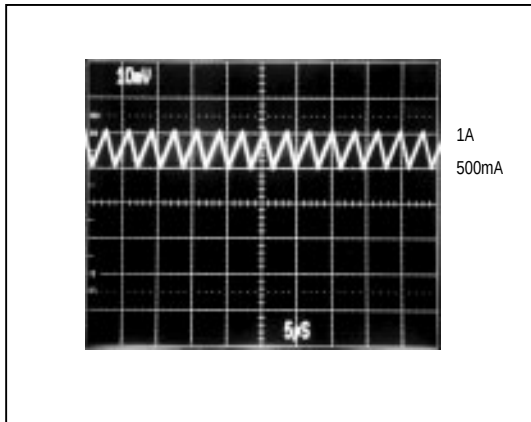

Figure 4a. CCM, Heavy Load Current Waveform (500mA/div)
The MAX761/MAX762 also limit the peak inductor current, allowing the devices to run in continuous-conduction mode (CCM) and maintain high efficiency with heavy loads (Figure 4a). This current-limiting feature is a key component of the control circuitry. Once turned on, the switch stays on until either (1) the maximum on-time one-shot turns it off (8µs later), or (2) the current limit is reached.
The coil's inductance need not satisfy this criterion exactly, as the circuit can tolerate a wide range of values. Larger inductance values tend to produce physically larger coils and increase the start-up time, but are otherwise acceptable. Smaller inductance values allow the coil current to ramp up to higher levels before the switch can turn off, producing higher ripple at light loads. In general, an 18µH inductor is sufficient for most applications ($V_{\text{IN}} \leq 5\text{V}$). An 18µH inductor is appropriate for input voltages up to 3.6V, as calculated above. However, the same 18µH coil can be used with input voltages up to 5V with only small increases in peak current, as shown in Figures 4a and 4b.